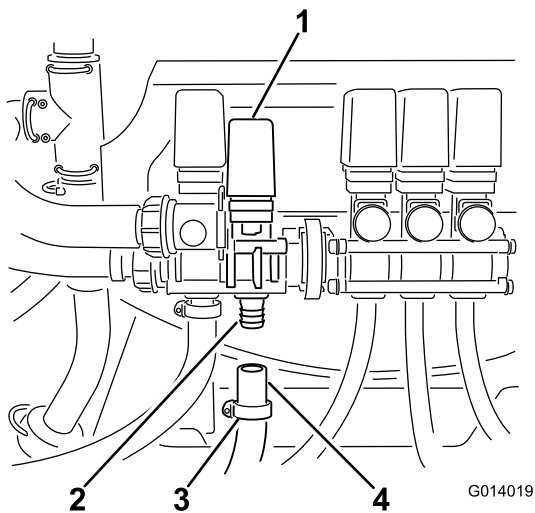

**Figure 26**
2. Route the open end of the supply hose rearward past the pump and turn back toward the valve assembly under the relief valve (Figure 26).
- 3. Staying under the agitation hose but above the left side mount for the center boom, route the hose upward to the eductor valve assembly (Figure 26).